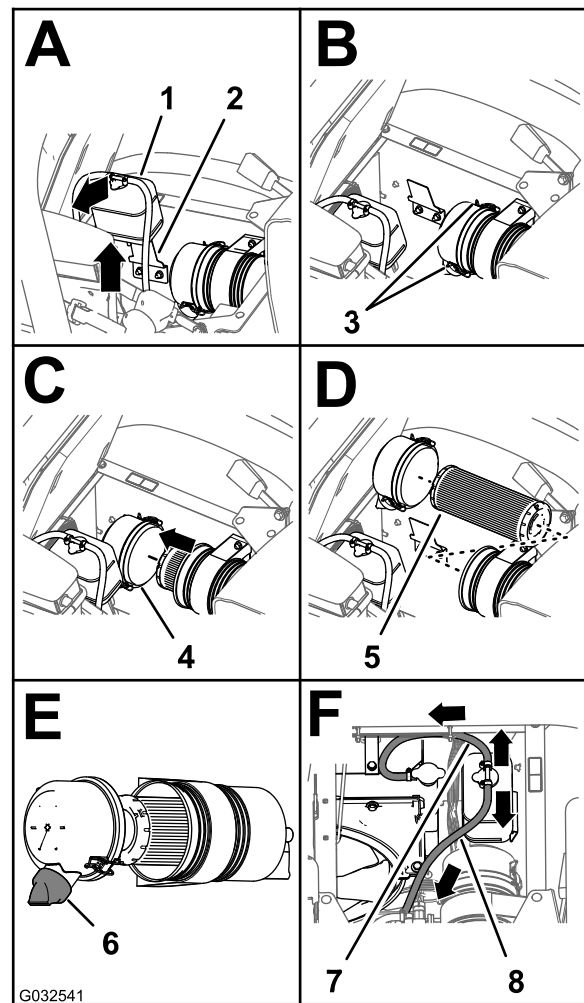

Figure 77
3. Lift the coolant-overflow tank up and off the tank-support bracket (Figure 77).
4. Loosen the 2 latches that secure the dust cap to the air-cleaner body (Figure 77).
6. Clean the inside of the dust cap, air-cleaner body, and dust valve with a damp rag (Figure 76 and Figure 77).
7. Insert the air-filter element into the air-cleaner body (Figure 77).
8. Install the cover onto the air-cleaner body and secure the cover with the 2 latches (Figure 77).
Note: Ensure that the dust valve is aligned between the 5 to 7 o'clock position when viewed from the end (Figure 77).
9. Align the coolant-overflow tank to the tank-support bracket and seat the tank firmly (Figure 77).
Important: Ensure that the pressure-relief hose is routed forward and down, and the tank-vent hose is routed rearward as shown in Figure 77.